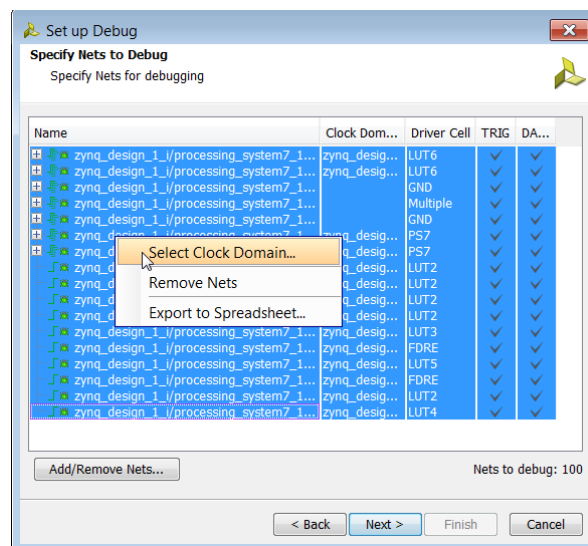

Figure 34: Set up Debug: Select Clock Domain
- To select the same clock domain for all nets: select one net, or press **Ctrl-A** to select all the nets, and then right-click **Select Clock Domain** (Figure 34).